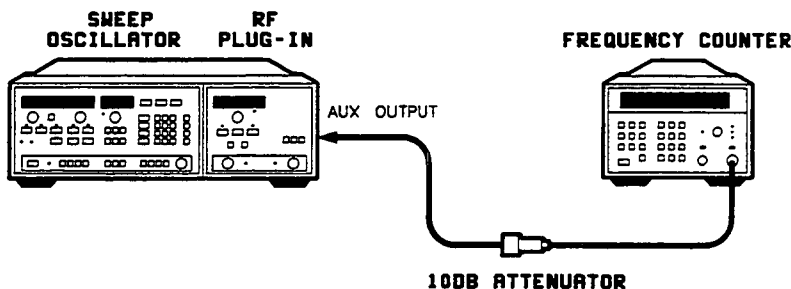

Figure 5-8. Preliminary Frequency Accuracy Test Setup
1. Connect the equipment as shown in Figure 5-8 with the frequency counter connected to the HP 83592B rear panel AUX OUTPUT connector through the 10 dB attenuator. Allow the equipment to warm up for 1 hour.